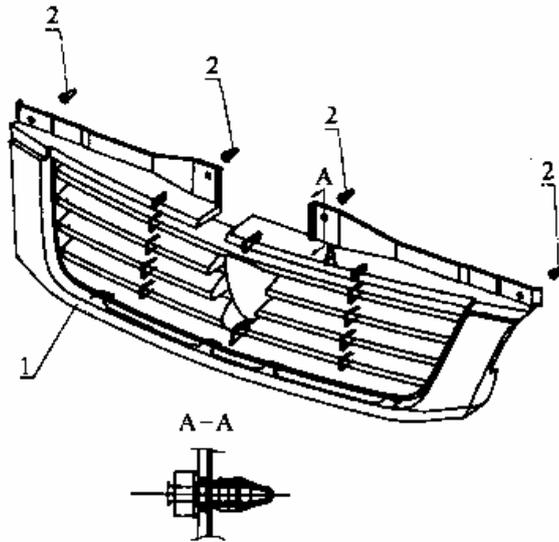

Fig. 19-37
- ① Remove the clip fixed on the body as shown in Fig.19-37;
- ② Remove the front grill with plain screw driver from the middle of grill gap to bottom mounting points, prize up gently.